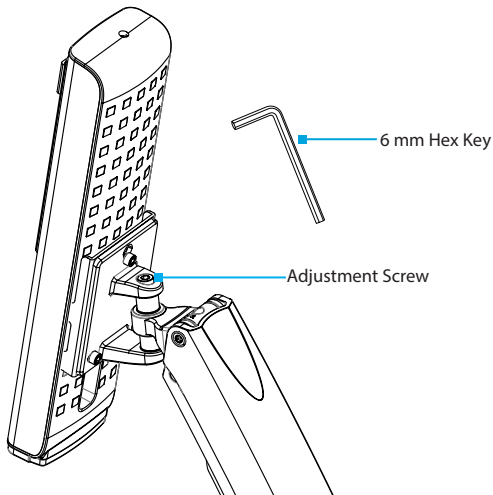

Figure 19
1. Adjust the **Adjustment Screw**, located on the base of the **Monitor Arm**, to increase or decrease the **Swivel** effort. (Figure 19)